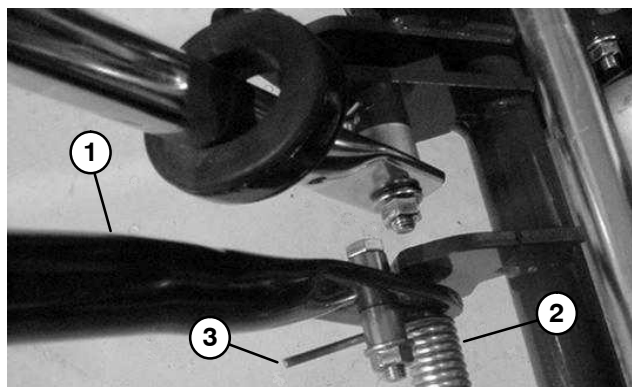

Figure 18
3. Use a nutdriver or small diameter pipe over the end of the torsion spring. Push the torsion spring down and in to release spring tension (Fig. 18).
4. Pivot kickstand up against the stops and hold in position. Use a nutdriver or small diameter pipe over the end of the torsion spring. Push the extension spring down and out to install spring (Fig. 18).